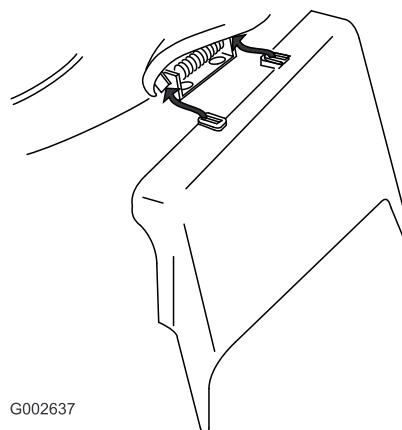

Figure 37
3. Install the side discharge chute and close the door onto the chute (Figure 37).